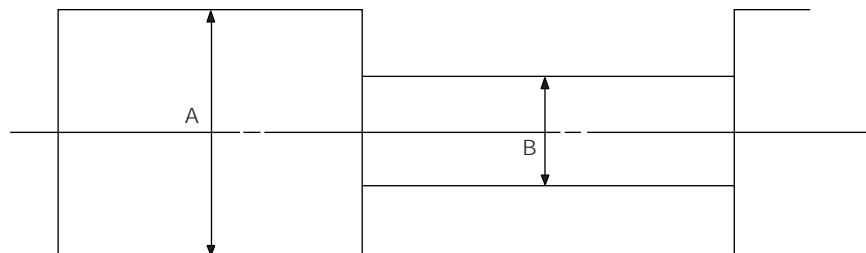

Fig. 2-10 Envelope Output and Output Level
1. Make recordings on T-120 (E-120) and T-160 (E-180) tape. Make sure the playback output envelope meets the specification as shown in Fig. 2-10.
2. Play back a self recorded tape (recording made on the unit using with T-120, E-120). The video envelope should meet the specification as shown in Fig. 2-10. In SP mode, (A) should equal (B).